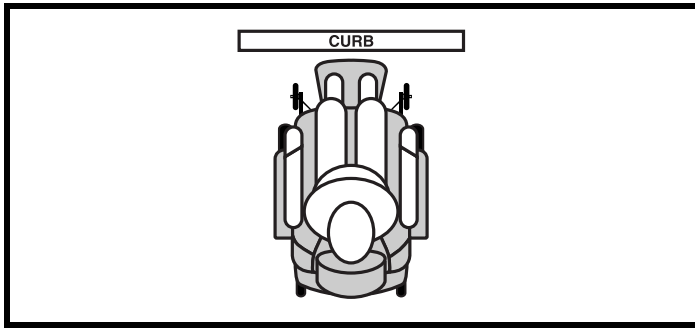

Figure 2. Correct Curb Approach
1. Approach the curb or obstacle slowly, and make sure the Go-Chair is traveling perpendicular to the obstacle. See figure 2.